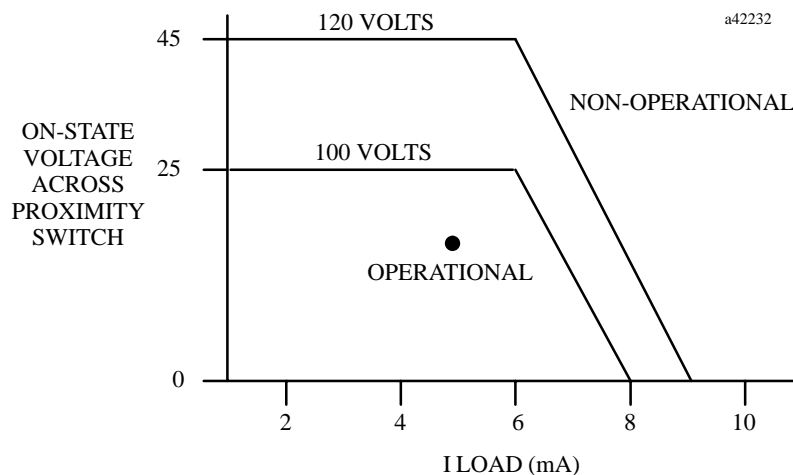

Figure 2. Proximity Switch Compatibility
2. To remove the terminal board, grasp the top of the terminal board and swing it outward as shown in Figure 2.
4. The terminal board is designed to accept a maximum of (40) AWG #14 (2.10 mm^2) wires. If AWG #14 (2.10 mm^2) wires are to be used, then wire markers should be placed at least 8 inches (203 mm) from termination end to provide sufficient space for the hinged door to close.